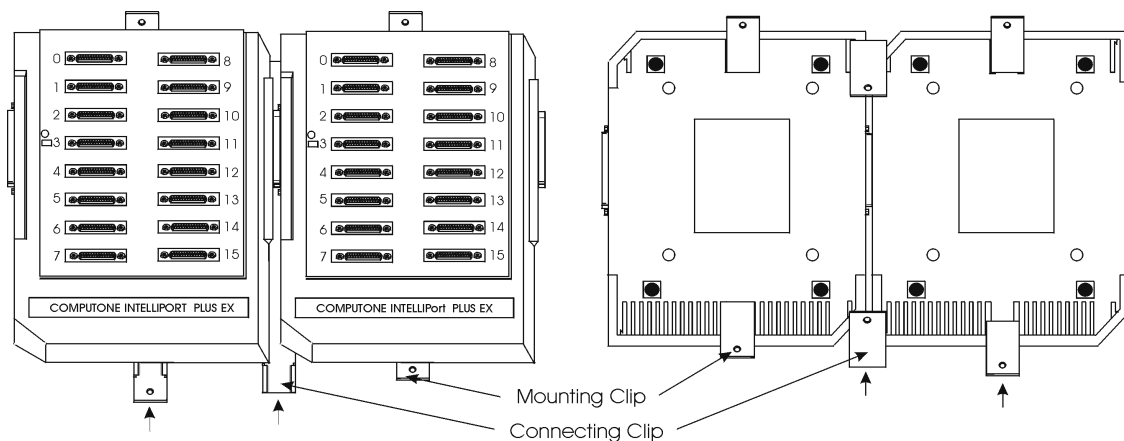

Figure 2-2 Expansion Module Attachment Scheme
7. Remove the clips from the middle slots of each enclosure (the enclosure is shipped with the clips inserted in the hidden position). Turn the clips over and slide them back into the middle slots of each enclosure so that the clip protrudes from the enclosure and the mounting hole is clear (this is the mounting position). See Figure 2-2 .